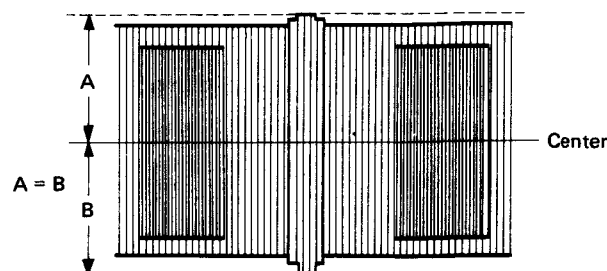

Figure 102.
3. Observe the output of I201 (pin ⑨ ) on oscilloscope (external trigger, TP506), and adjust R233 (carrier balance control) so that the waveform will be symmetrical with respect to its center, as shown. (Fig. 102)